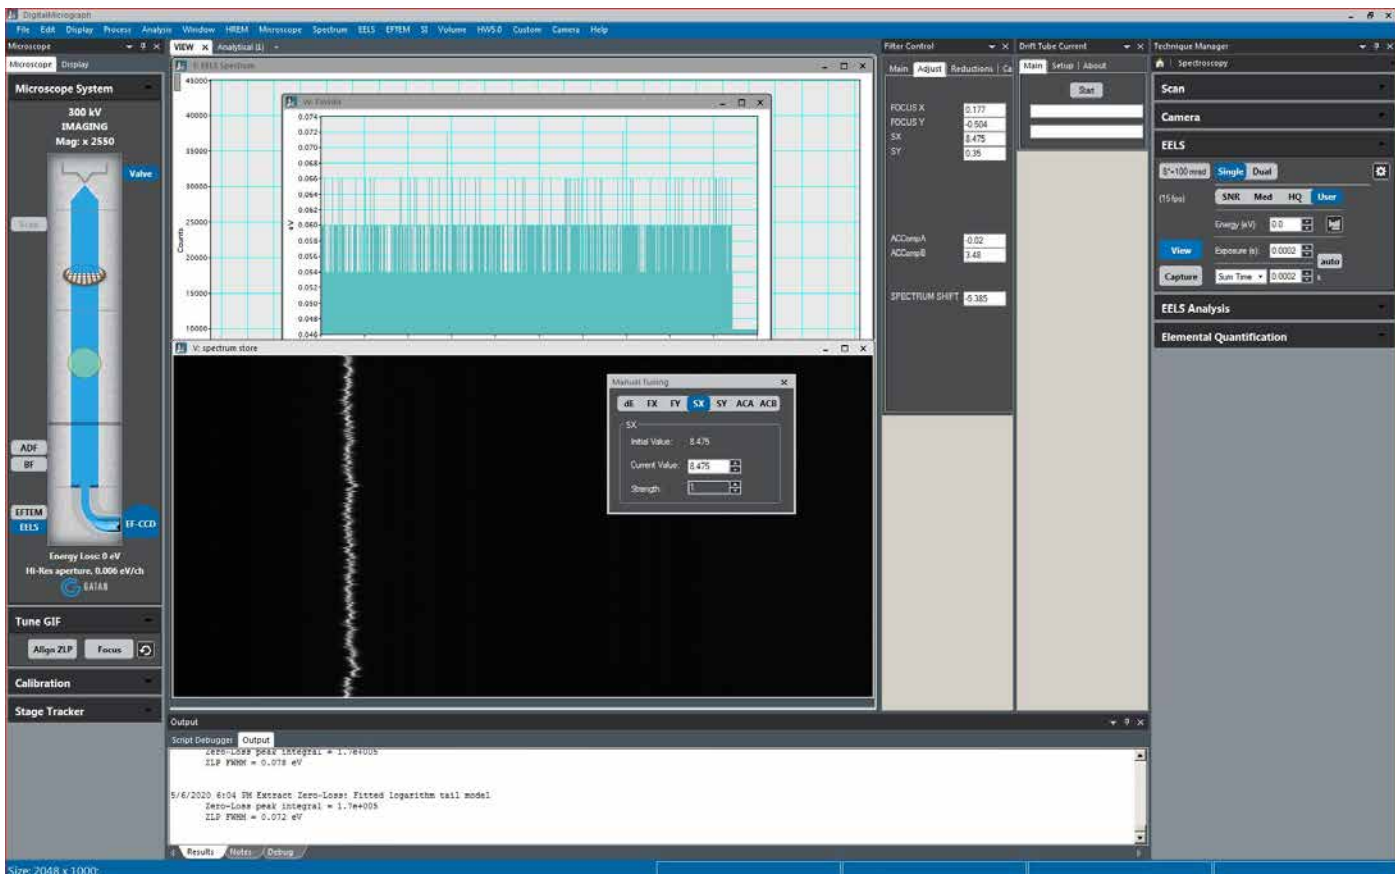

Figure 5. Screenshots showing the functionalities in Digital micrograph to be used for X-FEG UltiMono.
- Roughly center the beam to the GIF entrance aperture (beam shift) marked in the Thermo Scientific SmartCam™ camera viewer, fine-tune the beam shift to maximize the EELS (electron energy loss spectroscopy) zero-loss peak (ZLP) intensity, and set up a low dispersion (e.g., 1 eV/ch) in EELS mode in the **Digital Micrograph (DM)**.
- Acquire a live electron energy loss (EEL) spectrum with the ZLP (Figure 5) and ensure a proper EELS set-up in the **DM**. Click **View** in the **EELS** toolbar in the **DM**, commencing from the lowest exposure time (1E-6 second). Lift the viewing screen and increase the exposure time to get a proper view of the ZLP. By doing this, the risk of damage to the GIF camera is reduced.
- If necessary, manually fine-tune FX, FY, SX, and SY in **DM** to optimize the energy resolution. For Continuum and Continuum S spectrometers, press “**Alt+M**” in **DM** to activate an instantly live graphical representation to conveniently tune further to achieve the highest energy resolution (Figure 5). For an older instrument, such as the GIF Quantum™ energy filter from